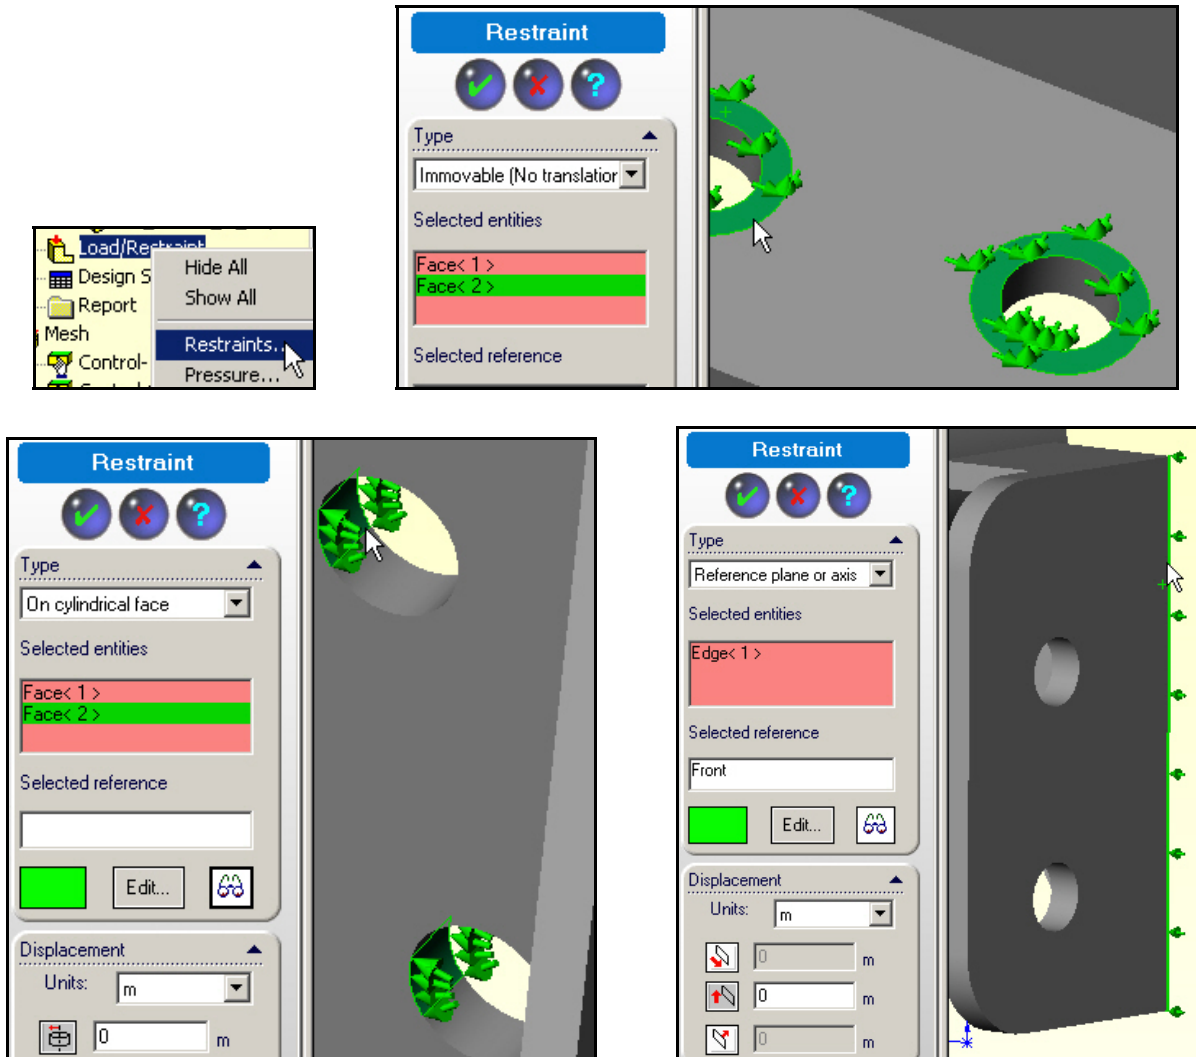

Figure 14 The new part displacement restraint choices
2. In the **Restraint panel** pick the two concentric ring faces as the **Selected Entities** and chose **immovable** as the **Type** (top right in Figure 14).. That will prevent all six possible rigid body motions (RBM) that can occur with a solid part.
3. Next select the two cylindrical bolt bearing faces and **restrain radial motion** on the **cylindrical face Type**, as shown in the lower left of Figure 14 (That prevents z translational RBM and the y rotational RBM.)
displacement, relative to the front face, by picking the vertical direction (parallel to the front plane) and preview the restraint arrow to verify the correct choice seen in the lower right of Figure 14. (That prevents RBM in y translation and z rotation.)